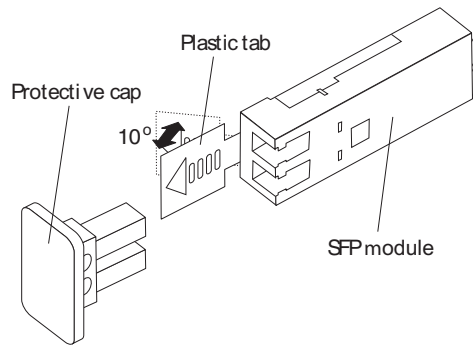

Figure 73. Unlocking the SFP module latch - plastic variety
- For SFP modules that contain plastic tabs, unlock the SFP module latch by pulling the plastic tab outward 10°, as shown in Figure 73.